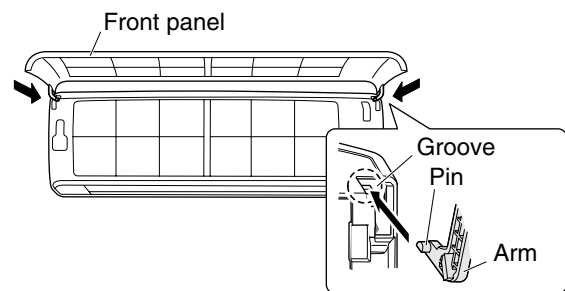

Fig. 11
- (1) Insert the bottom of the grille into the flap, with the flap at a more-or-less horizontal position.
- (2) While aligning both edges of the grille with the frame, move the panel horizontally and insert the top and bottom into the frame.
- (3) Press the air outlet firmly with your hand to ensure no gap exists between the main unit and grille.
- (4) Tighten the screws and close the screw covers.
- (5) Grasp the sections near the front panel arms on both sides, hold the front panel so that it is nearly horizontal, bring the arm shafts into contact with the top of the grooves on the right and left sides of the air conditioner, and then push firmly until the arm shafts click into place. (Fig. 11)